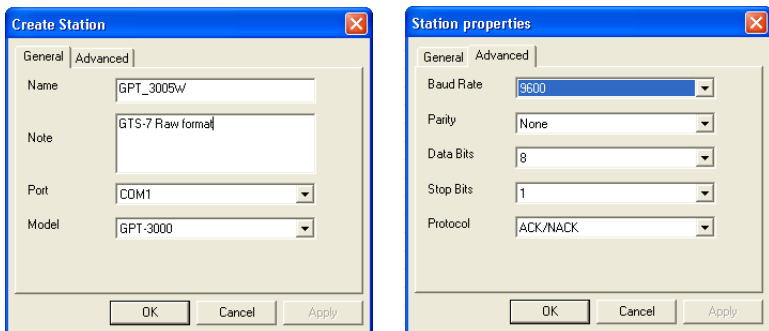

Figure 3-41. Total Station Properties
4. Enter *Name*, *Notes*, the *Port* the device connects to, and the *Model*. Enter the *Baud Rate*, *Parity*, *Data Bits*, *Stop Bits*, and/or *Protocol* used for communication (Figure 3-41). Click **OK**.